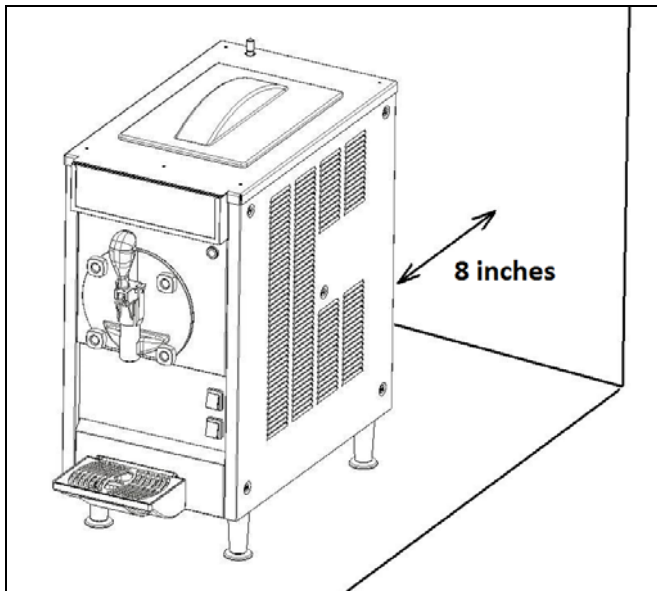

Fig. 2
b) Place the appliance on a solid and flat surface leaving at least 8 inches of free space on all sides to allow for good ventilation (fig.2). Install the appliance in a dry area and avoid installing it near heat sources. **The ambient operating temperature should be between 75 and 97° F.**